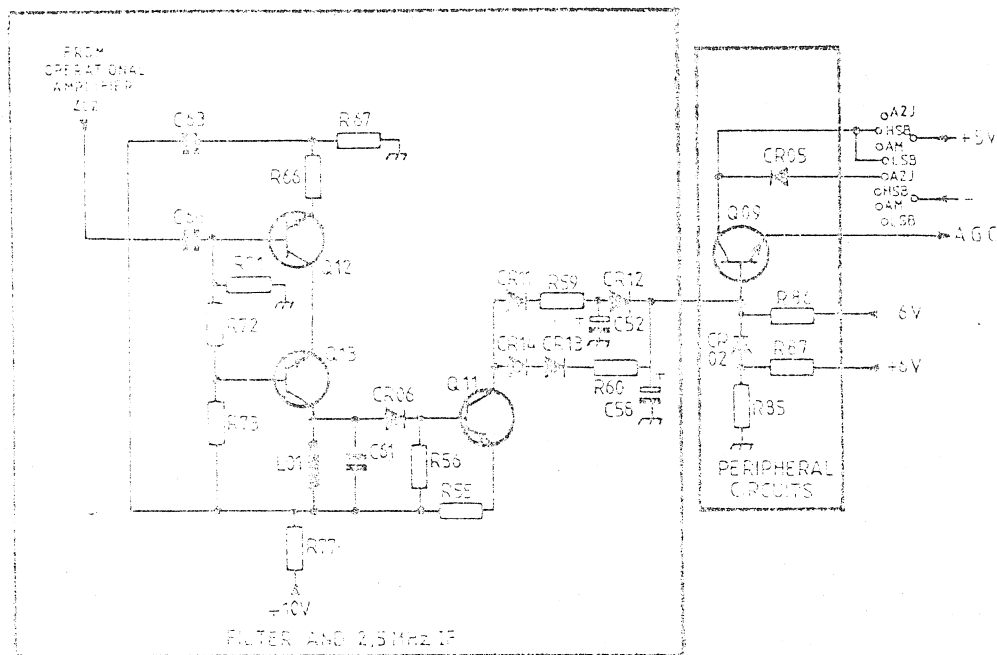

Fig. 20 AGC Voltage Generating Circuit
- 239 During reception in all modes an automatic gain control (AGC) voltage is generated on the Filter and 2,5 MHz IF Circuit Board and the Peripheral Circuits Board. The circuit is shown in simplified form on Figure 20.